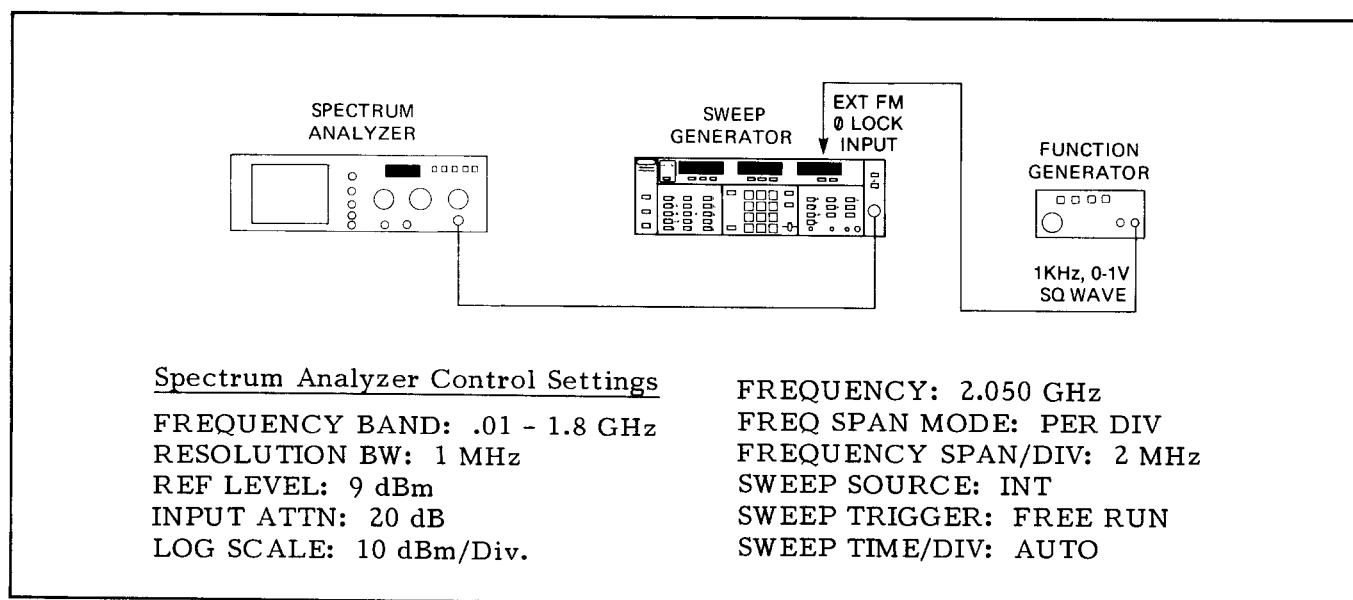

Figure 4-12. Test Equipment Setup for External FM and Phase Lock Test
- a. Connect test equipment as shown in Figure 4-12, and turn the equipment on.